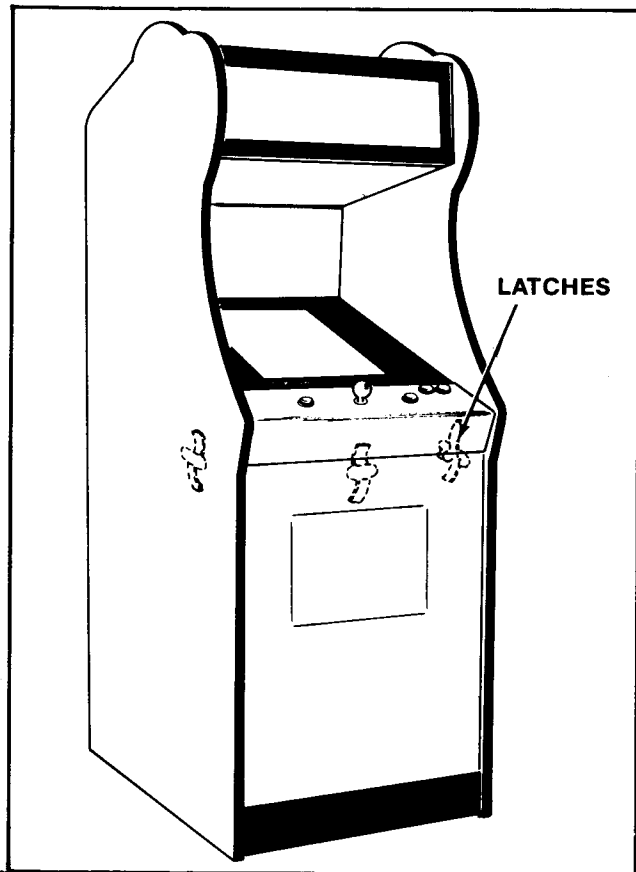

Figure 4-2 Opening the Control Panel — Upright
1. UPRIGHT MODEL: See Figure 4-2.